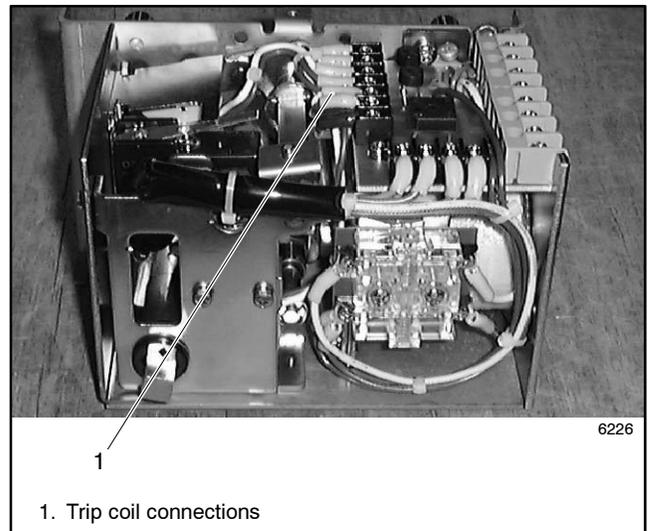

Figure 6-22 Trip Coil Connections
- Note the connections and disconnect the trip coil leads from the printed circuit board. See Figure 6-22.